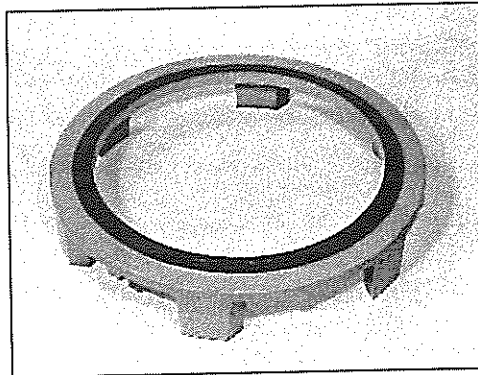

Figure 6-49
4. Inspect the bracket or adapter for stripped threads, cracks, and burred or rough mating surfaces (figures 6-49 and 6-50).